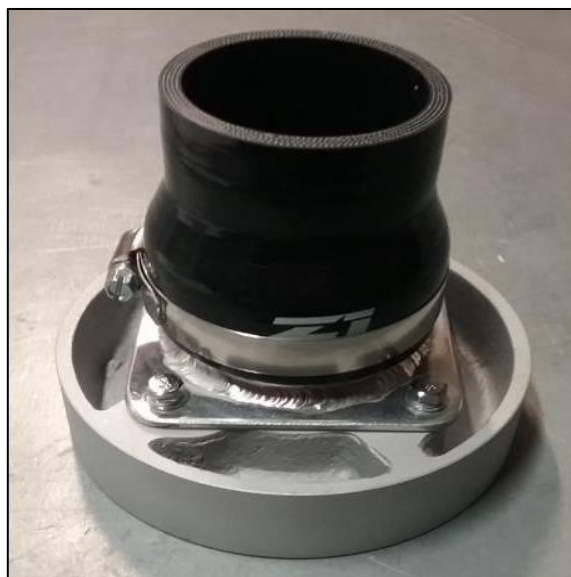

Figure 4
G37 Owners: Use *Figure 4* below as reference for *Steps 13-20*. 370Z Owners can skip to *Step 21*.
24. Slide the Silicone Coupler/Reducer and a Hose Clamp over the Velocity Stack Adaptor and tighten the Clamp. *Figure 4.*